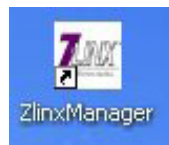

Figure 3. Zlinx Software Program Icon
7. Find the software CD. Insert into the CD drive on your PC. It should auto-start. Follow the screen instructions to install the software. The Zlinx Radio Modem software icon (Figure 3) should appear on your desktop.